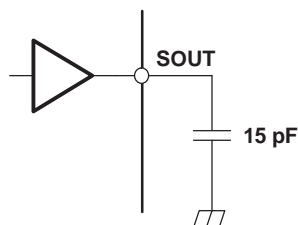

Figure 4. Test Circuit for t_{r0} , t_{f0} , t_{pd0} , t_{pd1}
(1) See Figure 4. Defined as from 10% to 90%
(3) See Figure 4, Figure 14